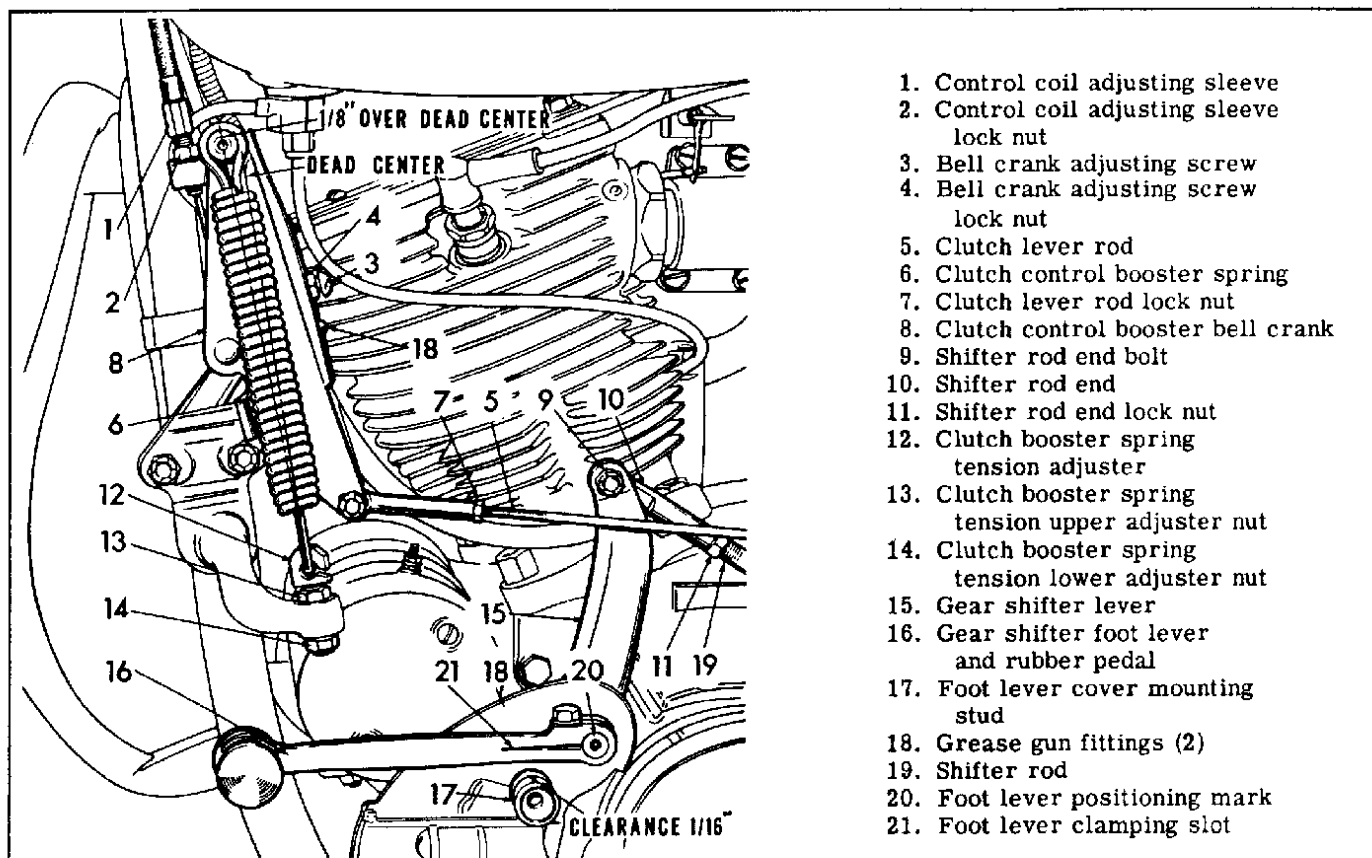

Figure 4B-2. Adjusting Hand Clutch Booster
If the clutch slips after adjusting clutch controls, increase spring tension on the three clutch spring guide stud nuts (6, Fig. 4B-1). Tighten all three nuts one-half turn at a time until clutch holds. Test after each half turn by cranking the engine. Usually a clutch that holds without noticeable slipping when cranking the engine will hold under normal road conditions. Do not increase spring tension any more than is necessary to make clutch hold.
A new clutch is assembled so the distance from inner edge of spring collar (2, Fig. 4B-4) to the surface of the outer disc (9) is exactly  $31/32$  in. If springs are compressed so this distance is  $7/8$  in. or less, the clutch probably cannot be fully disengaged.